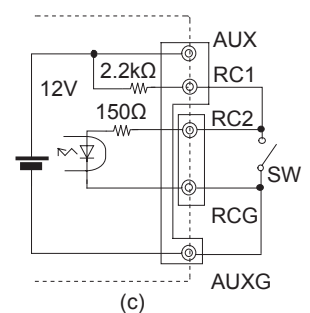

Fig. 2.3 Examples of connecting remote ON/OFF circuit
■You can operate the remote ON/OFF function by sending signals to CN1 or CN2. Specifications are shown in Table 2.3 and connection examples are shown in Fig. 2.3.